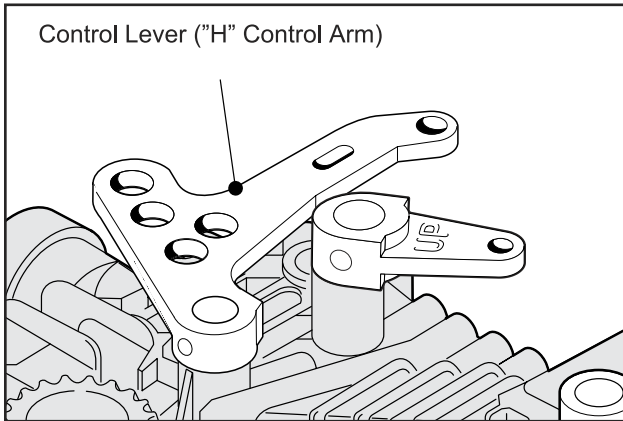

Fig. 17, Hydrostatic Control Arm Assembly
- Mount the Hydrostatic Control Arm onto the Control Shaft; then, align and secure with Roll Pin. (Fig. 17)